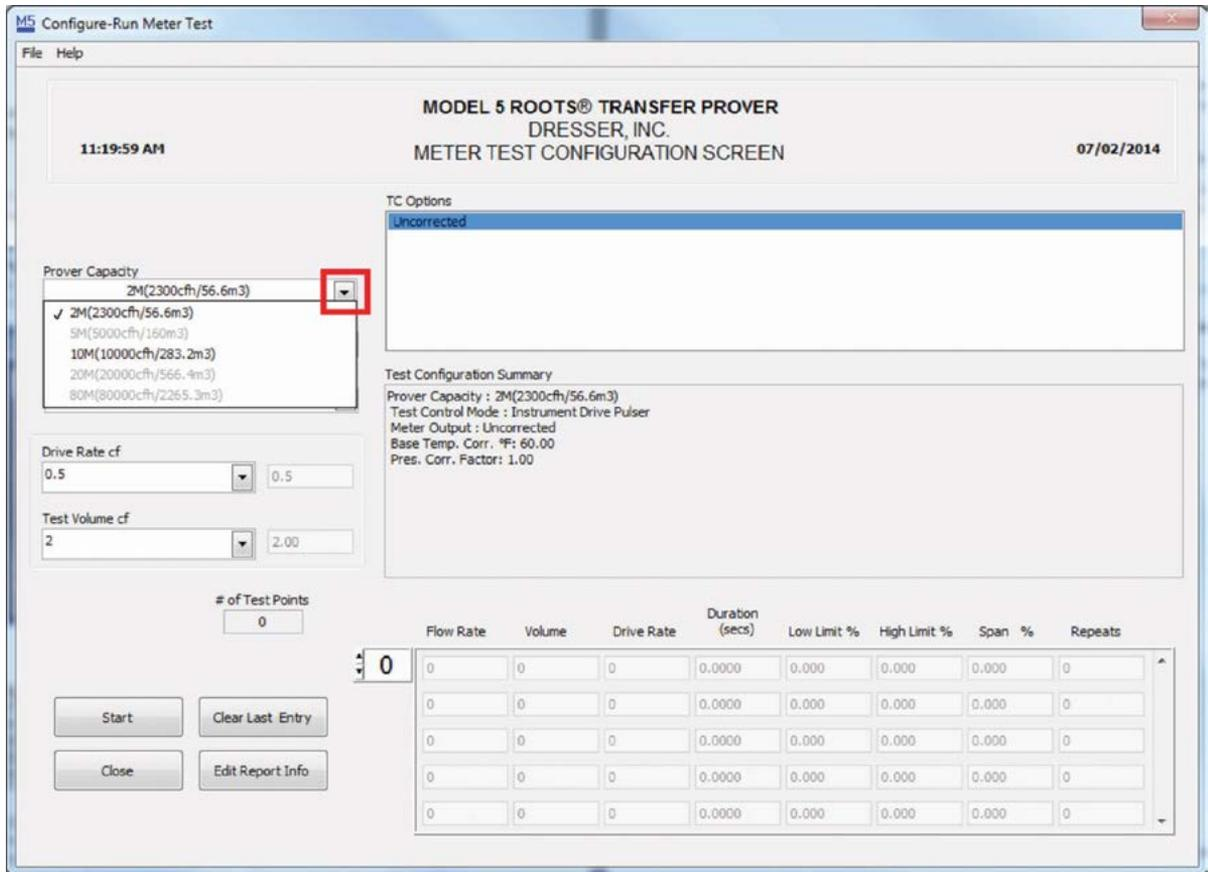

Figure 80: Prover Capacity Drop Down Arrow
1. Click on the black arrow in the right-hand side of the box to display the drop-down menu as shown in **Figure 80**. Select the appropriate Master Meter for the test.